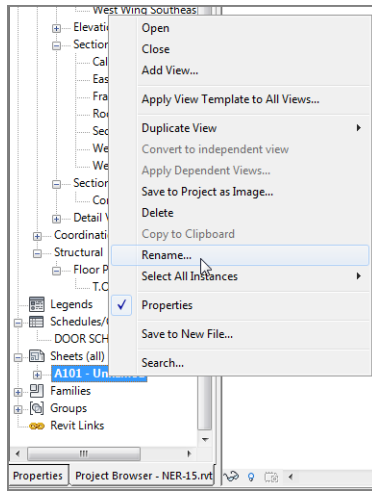

FIGURE 14.4: Renaming the sheet
2. Select Rename, as shown in Figure 14.4.